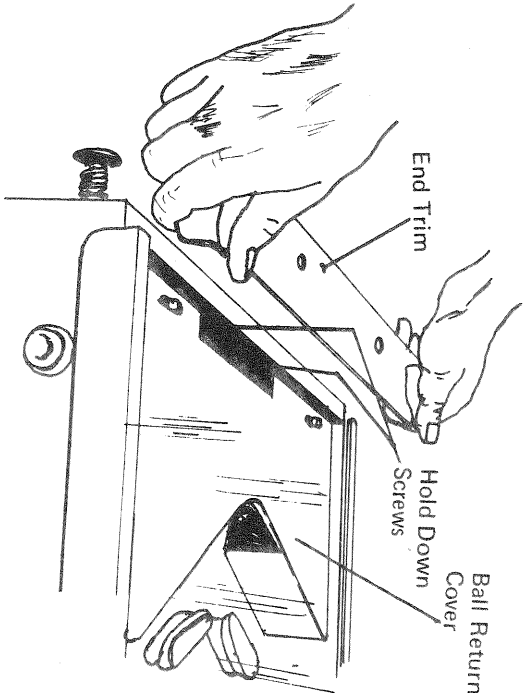

FIGURE 6
- 1. Remove the two screws from the end trim as shown in Figure 6. Set end trim and the attaching screws aside.
- 4. Remove the two hold down screws from the playfield as indicated in Figure 6 and set aside until playfield is re-installed.
6. Place end trim back into position and re-install the two screws. (See Figure 6, Page 13).